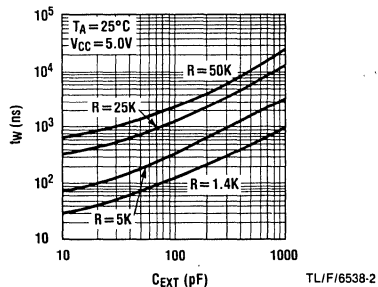

FIGURE 1
3. The pulse width is essentially determined by external timing components R_X and C_X. For C_X < 1000 pF see Figure 1 design curves on T_W as function of timing components value. For C_X > 1000 pF the output is defined as: